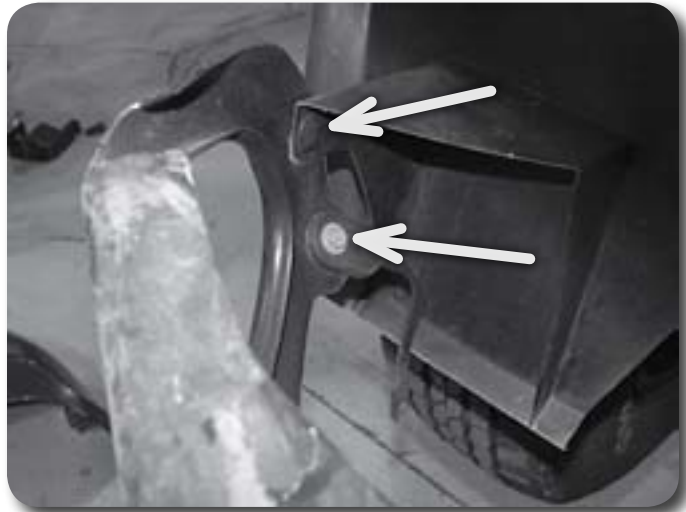

Figure 4
7. Remove the two (one per side) plastic clips and two bolts holding the inner fender to the bumper) **Figure 4**. Save clips and bolts.